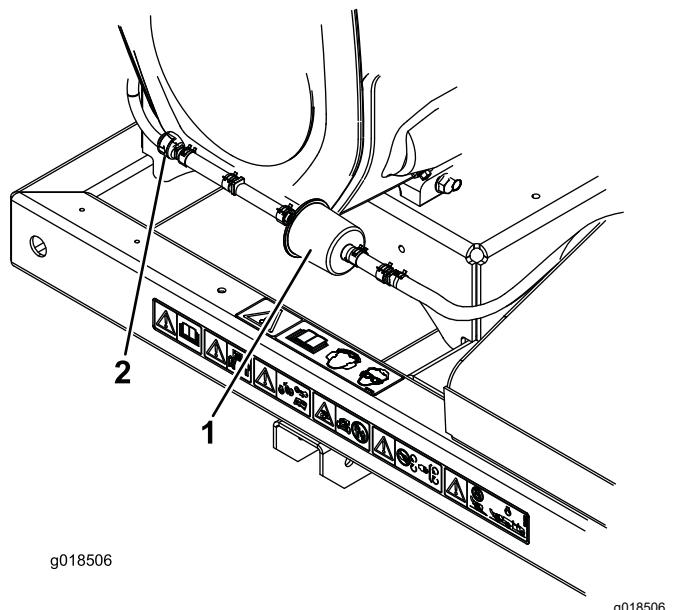

Figure 19
- Move the spring-type hose clamps on both sides of the carbon canister purge-line filter away from the filter (Figure 19).
3. Remove and discard the carbon filter (Figure 19).
4. Install a new filter into the hose with the arrow on the filter pointing toward the check valve and secure it with the hose clamps (Figure 19).